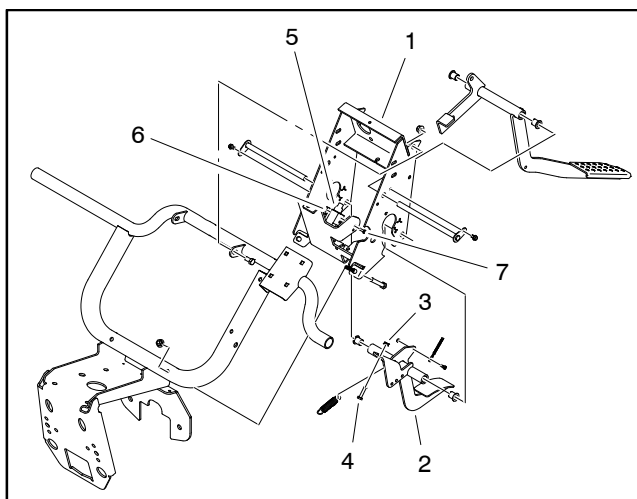

Figure 11
The accelerator switch is a four (4) terminal, two (2) circuit switch. The switch is attached to the pedal support (Fig. 11).